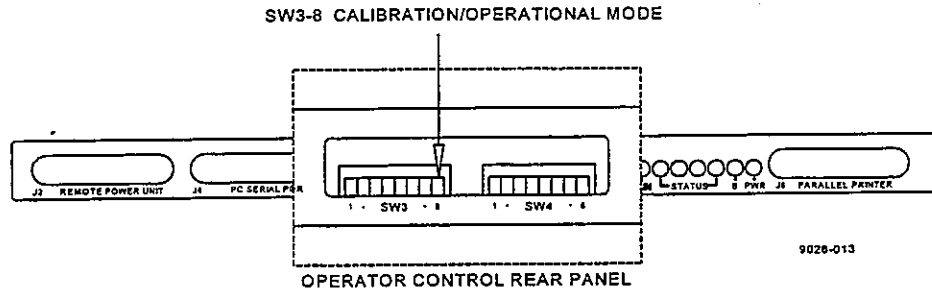

FIGURE 3-3 OPERATOR CONTROL SWITCH LOCATION
1. On the rear of the OC, remove the label covering SW3 and SW4. See **FIGURE 3-3**.